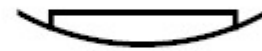

Fig 5
2. In round drains, is the top grid dished as shown (Fig 5)